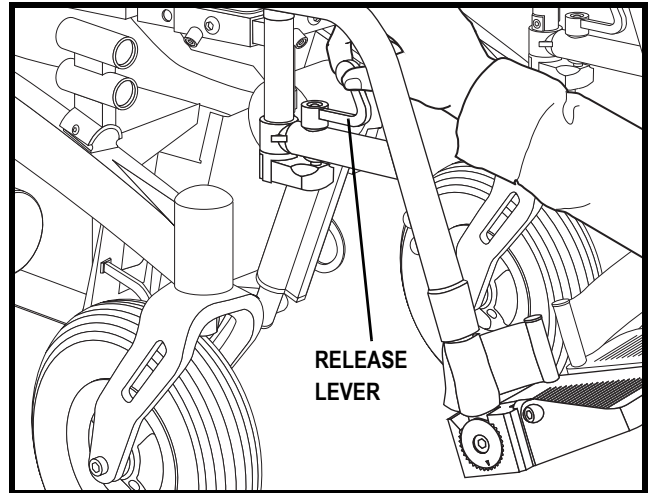

Figure 19. Swing-away Footrest
1. Push the release lever to either side. See **figure 19**.